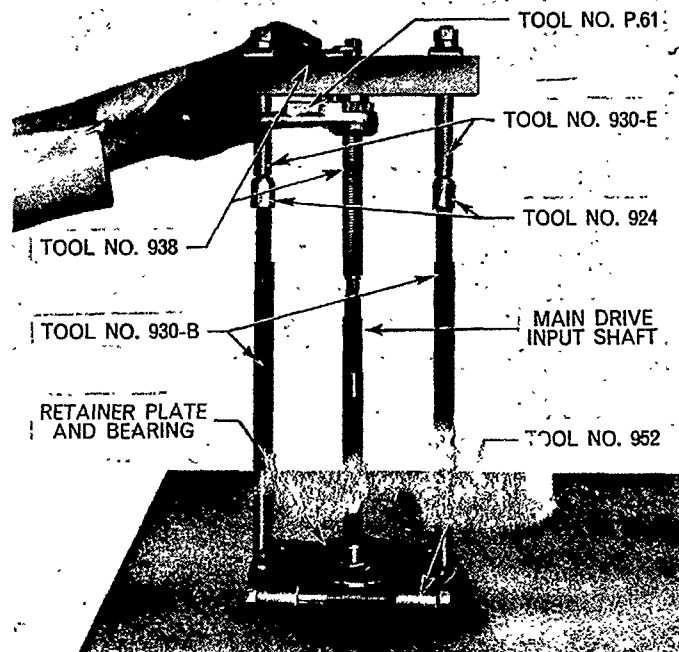

Figure 17
- necessary remove the inner snap ring from the input shaft and press the shaft out of the bearing and plate assembly, using Tools Nos. 952, P.61, 930-B (pair), 930-E (pair), 924 (pair), and 938, Figure 17.